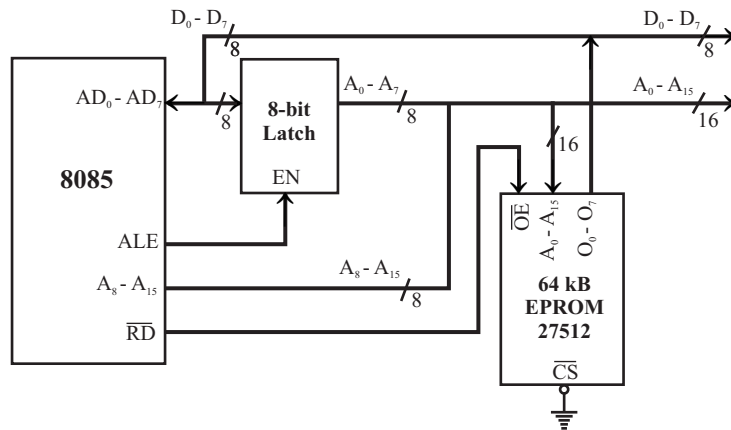

Fig. 1.13: Example of implementing 64 kB EPROM in the 8085 system.
Consider a system in which the full memory space 64 kB is utilized for EPROM memory. In this system the entire 16 address lines of the processor are connected to address input pins of memory IC in order to address the internal locations of memory and Chip Select (CS) pin of EPROM is permanently tied to logic **low** (i.e., tied to ground) as shown in Fig. 1.13. Now the range of address for EPROM is 0000_H to FFFF_H.
Consider a system in which the available 64 kB memory space is equally divided between EPROM and RAM. Let us implement 32 kB memory capacity of EPROM using single IC 27256. Similarly, 32 kB RAM capacity is implemented using single IC 62256. The 32 kB memory requires 15 address lines and so the address lines A₀ - A₁₄ of the processor are connected to 15 address pins of both EPROM and RAM as shown in Fig. 1.13.